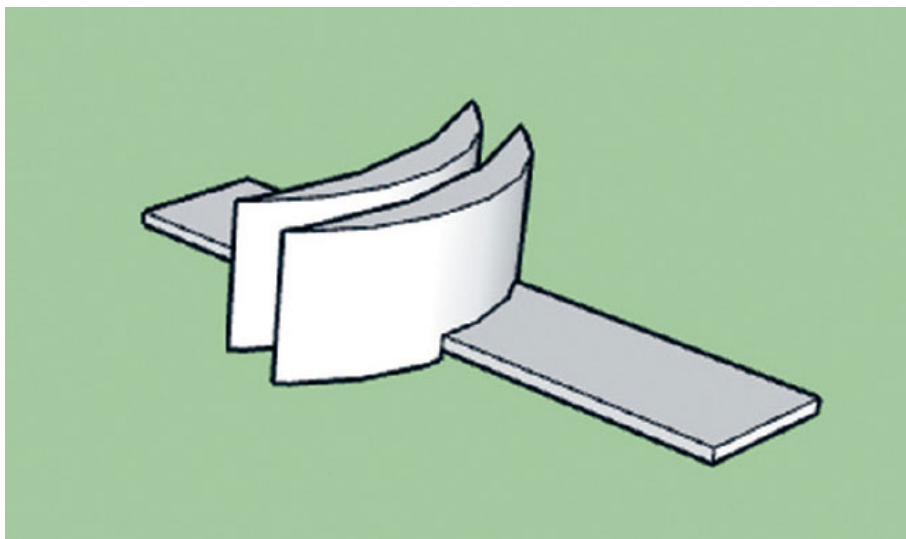

FIG. 6: *Merge the base with the walls.*
6. Merge the base with the walls to complete the menu holder design (fig 6).